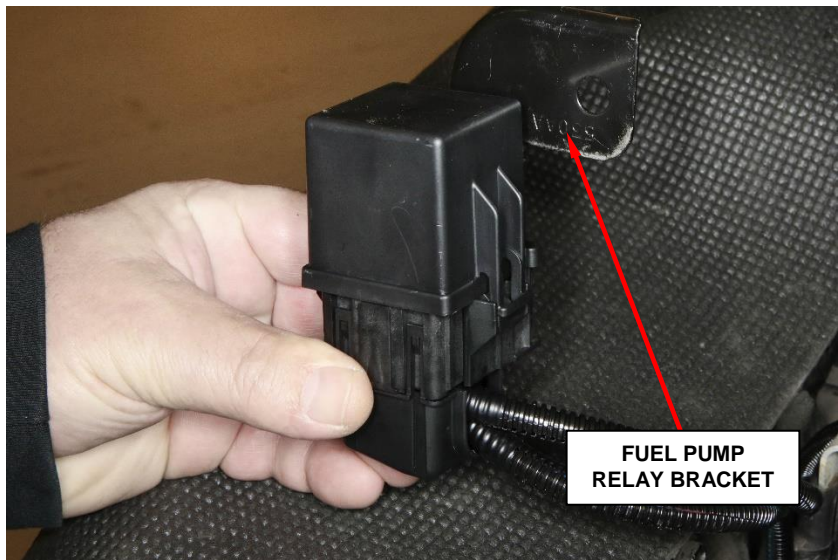

Figure 8 – Fuel Pump Relay Bracket
18. Insert the provided Fuel Pump Relay Bracket on to the relay housing (Figure 8).